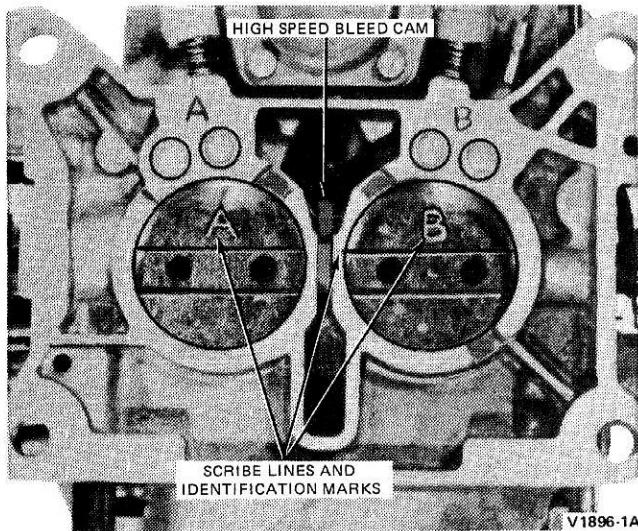

FIG. 26 Scribing Throttle Plates
10. Remove the four (4) screws that attach the aneroid assembly to the main body (if altitude compensated) and remove the assembly.
11. If it is necessary to remove the throttle plates, lightly scribe the throttle plates along the throttle shaft, and mark each plate and its corresponding bore with a number or letter for proper installation (Fig. 26). Remove the throttle plate attaching screws. Carefully remove any burrs caused by the screw removal to prevent scoring the throttle shaft bores as the throttle shaft is withdrawn.